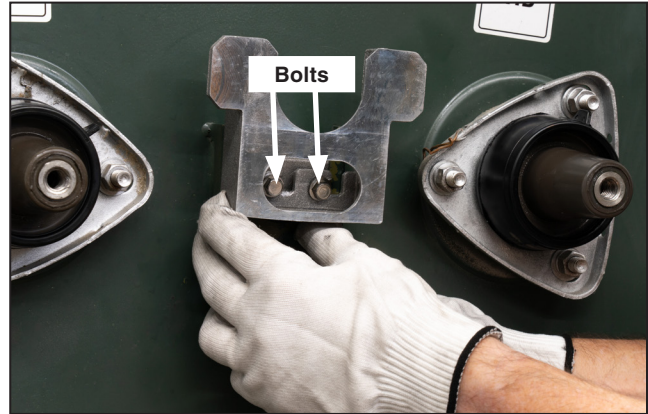
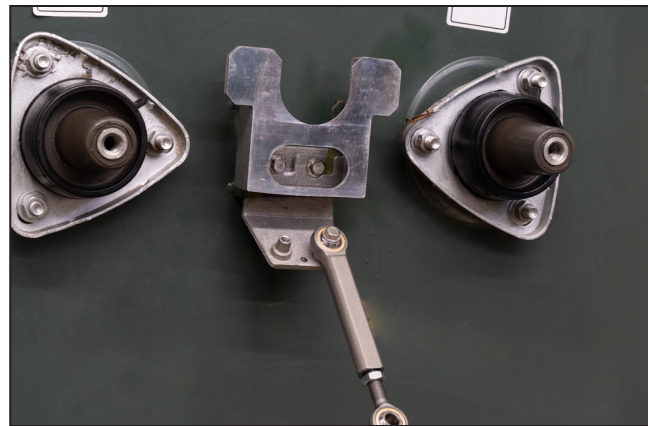

Figure 15. Tighten the bolts.
Figure 16. A completed parking stand link bracket installation.
STEP 5. Tighten the two bolts with a wrench equipped with a $\frac{3}{8}$ -inch socket to a torque of 6 ft-lbs. See Figure 15. The completed installation is shown in Figure 16.